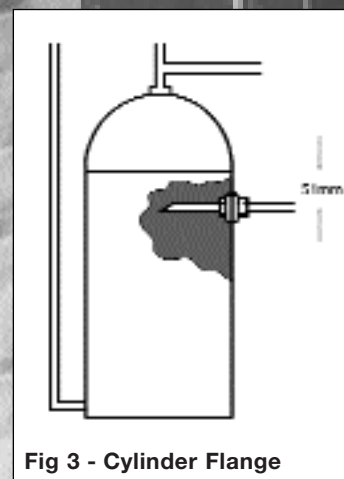

Fig 3 - Cylinder Flange
- The shower can be fitted to a combination cylinder provided that it has a cold water storage capacity, of 115 litres (25 gallons actual). Where this criteria cannot be met then an Essex Flange must be fitted to prevent air being drawn down the expansion pipe and causing possible damage to the shower. Fig 3.